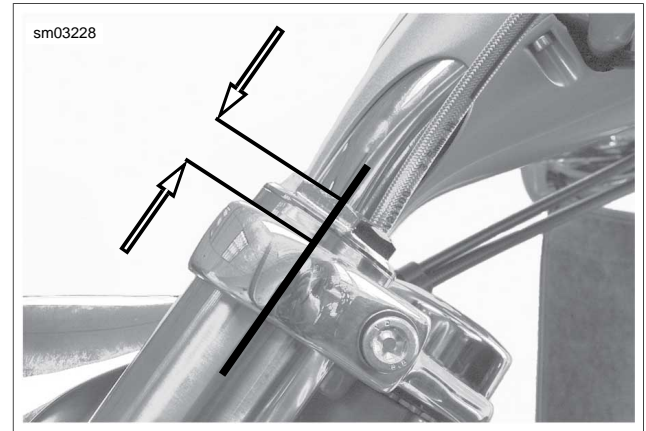

Figure 2-88. Fork Tube Protrusion: Typical
1. See Figure 2-88. Insert fork tube and slider assemblies through lower triple clamp and upper triple clamp. Fork tubes should protrude above upper triple clamp 0.450-0.500 in. (11.4-12.7 mm). Measurement must be taken at midpoint of fork tube between top surface of triple clamp to top of fork cap. Tighten pinch bolts to 30-35 ft-lbs (41-48 Nm).